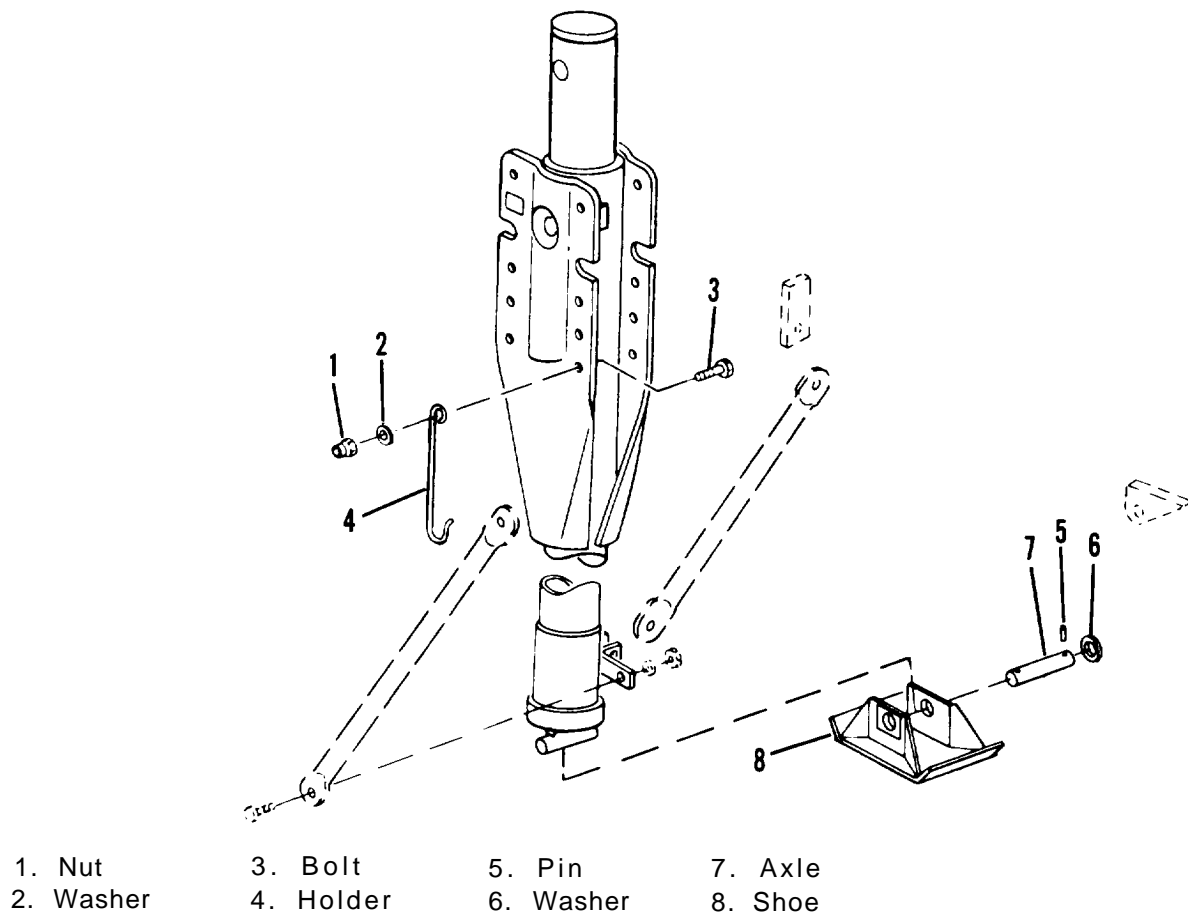

Figure 4-46. Landing leg disassembly and assembly
- (1) Remove nut (1, figure 4-46), washer (2) and bolt (3) to release holder (4).
- (2) Remove two pins (5) holding two washers (6). Remove washers (6) from axle (7).
- (3) Pull out axle (7) to remove shoe (8).
- (1) Install shoe (8, figure 4-46) and axle (7) to landing leg.
- (2) Secure shoe (8) with two washers (6) and pins (5).
- (3) Install holder (4). Secure with bolt (3), washer (2) and nut (1).